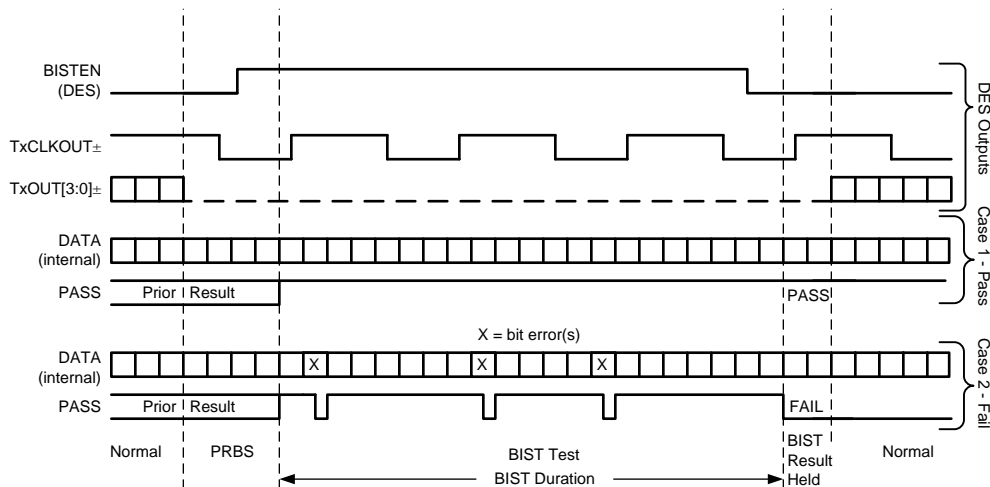

Figure 29. BIST Waveforms, in Conjunction with Deserializer Signals
Step 4: The link returns to normal operation after the deserializer BISTEN pin is low. Figure 29 shows the waveform diagram of a typical BIST test for two cases. Case 1 is error free, and Case 2 shows one with multiple errors. In most cases it is difficult to generate errors due to the robustness of the link (differential data transmission etc.), thus they may be introduced by greatly extending the cable length, faulting the interconnect medium, or reducing signal condition enhancements (Rx Equalization).